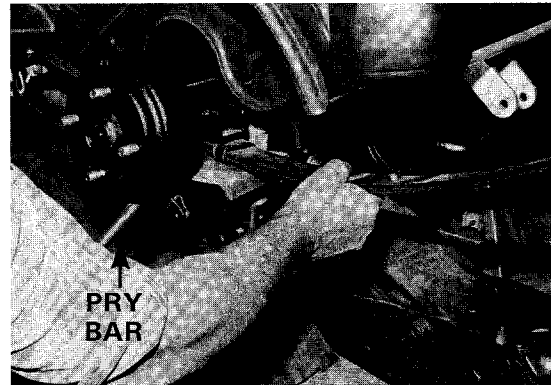

Figure 12-25
10. Use a small pry bar, insert between the bottom of brake cluster and spring retainer plate. Lift pry bar up to raise axle tube housing away from spring (**Figure 12-25**).